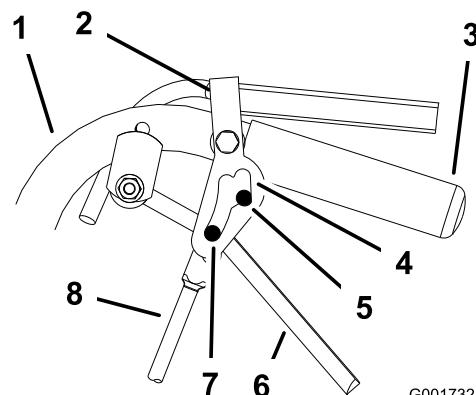

Figure 40
5. Release and engage the neutral lock, checking that the tire does not rotate (Figure 40). Continue this process until the tire does not rotate.